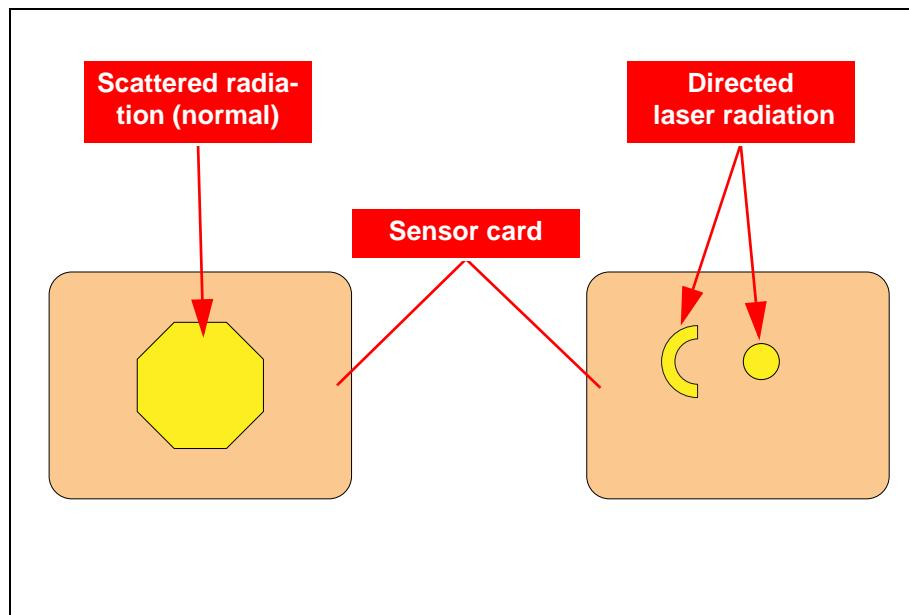

Figure 3.17 Visual inspection with sensor card
- See outline diagrams in Figure 3.17 for more details.